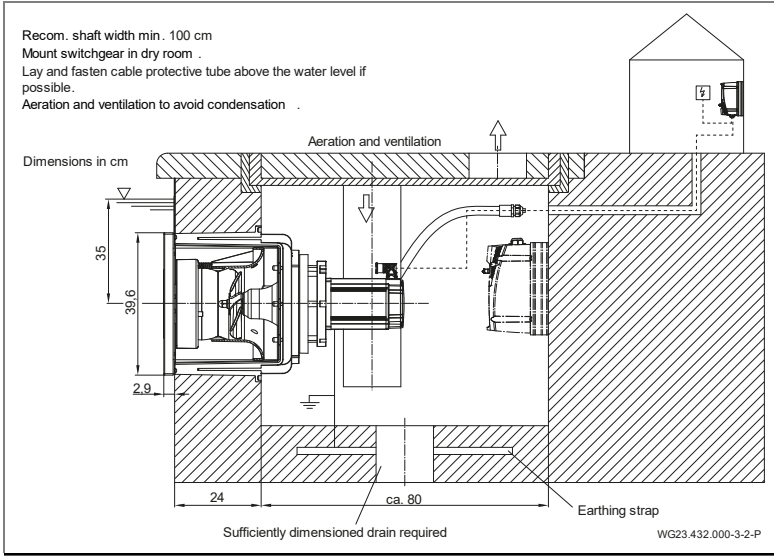

Fig. 17
1. Remove grease from the connection nozzle (d, (Fig. 17)) on the plastic housing (1) and the connection socket of the cable protection tube (12) with PVC-U/ABS cleaner.